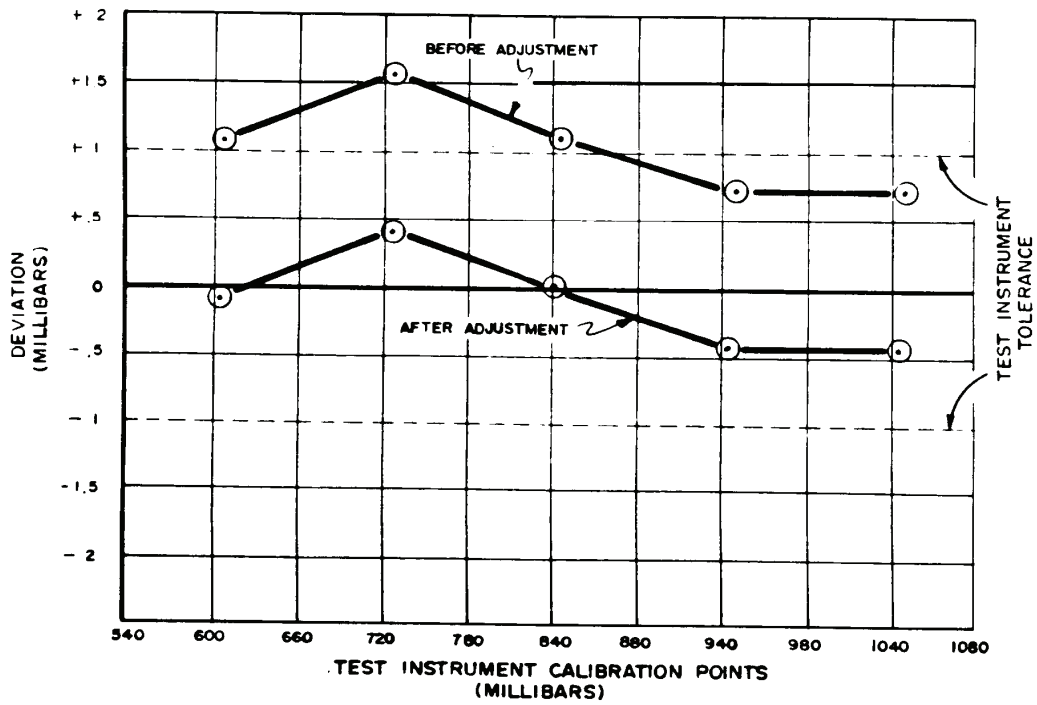

Figure 3. Test instrument adjustment.
(1) Repeat **a** (6) above, recording pneumatic pressure standard indication for 6 to 10 TI calibration points evenly spaced throughout the range of the TI.
(2) Make a graph plotting the TI calibration points on the abscissa (x-axis) and the deviation (difference in pneumatic pressure standard indications and TI indications) on the ordinate (y-axis) (fig. 3).